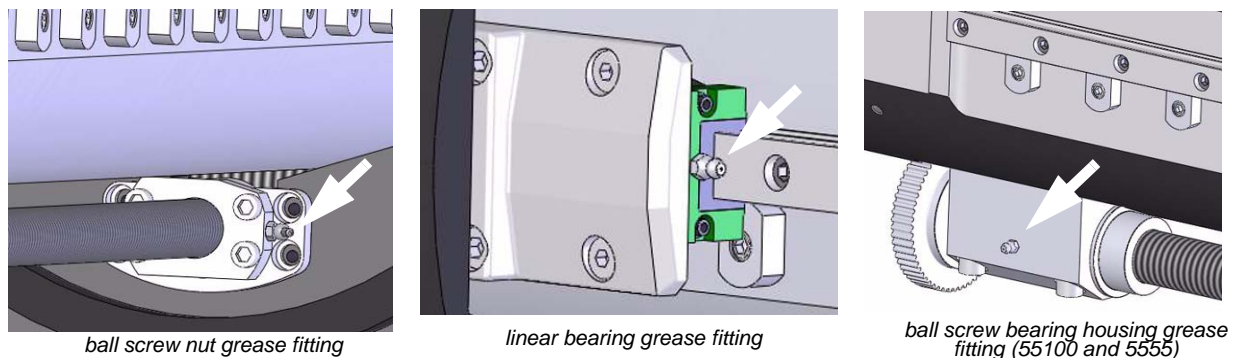

Figure 6-13: Lubrication Fittings for Cantilever Style X, Y Carriages
5. Pull the loosened bellows back, exposing the four linear bearings and the ball screw nut (refer to Figure 6-13).